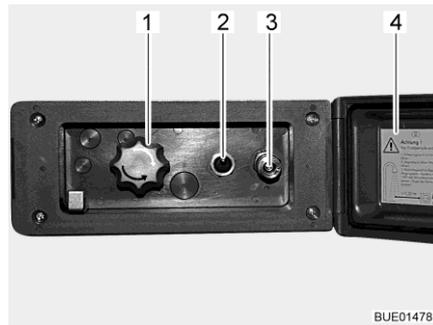

Fig. 107 External shower connection point
- Unlock and open the cover (Fig. 107,4).
- Attach hose of the external shower to the quick closure (Fig. 107,3).
- Switch on the water pump using the switch (Fig. 107,2).
- Adjust the water temperature with the rotary knob (Fig. 107,1) as desired.
- Switch off the water pump using the switch (Fig. 107,2).
- Close the cover (Fig. 107,4) and lock with key.
- Turn knob (Fig. 107,1) to the central position.